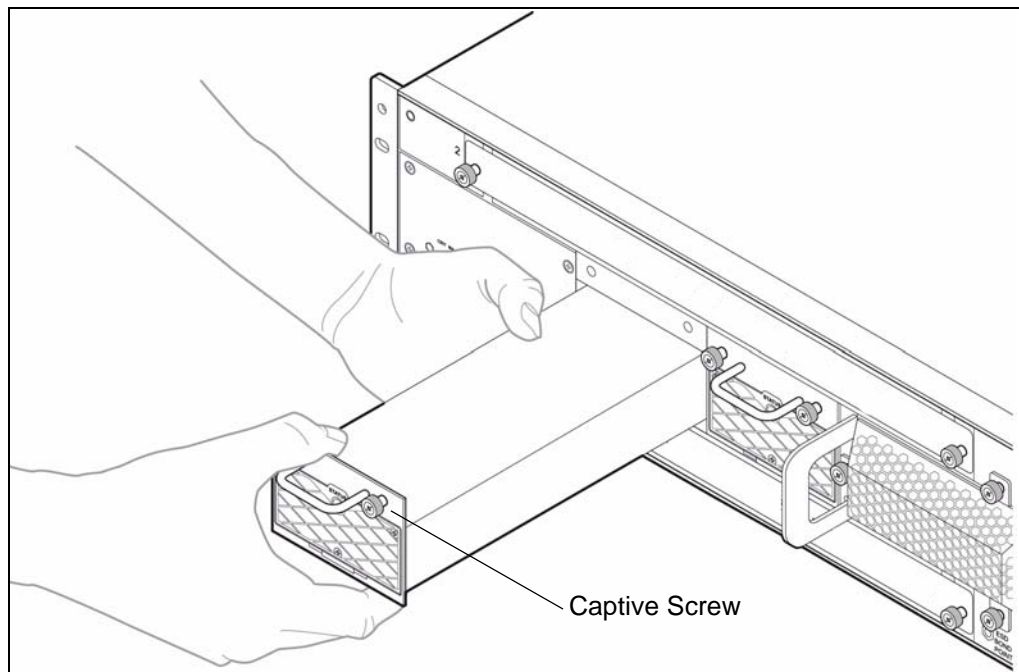

Figure C.3 - Inserting the Replacement AC PEM
7. Insert the replacement PEM (**Figure C.3**).